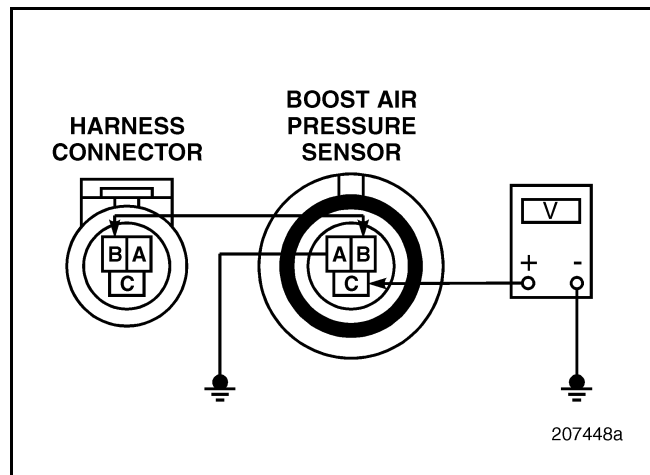

Figure 192
- Measure the voltage between BAP Sensor pin C and a good ground at various pressures between 0 psi and 60 psi (see Figure 192). The correct pressure and output voltage specifications are shown in the table below.